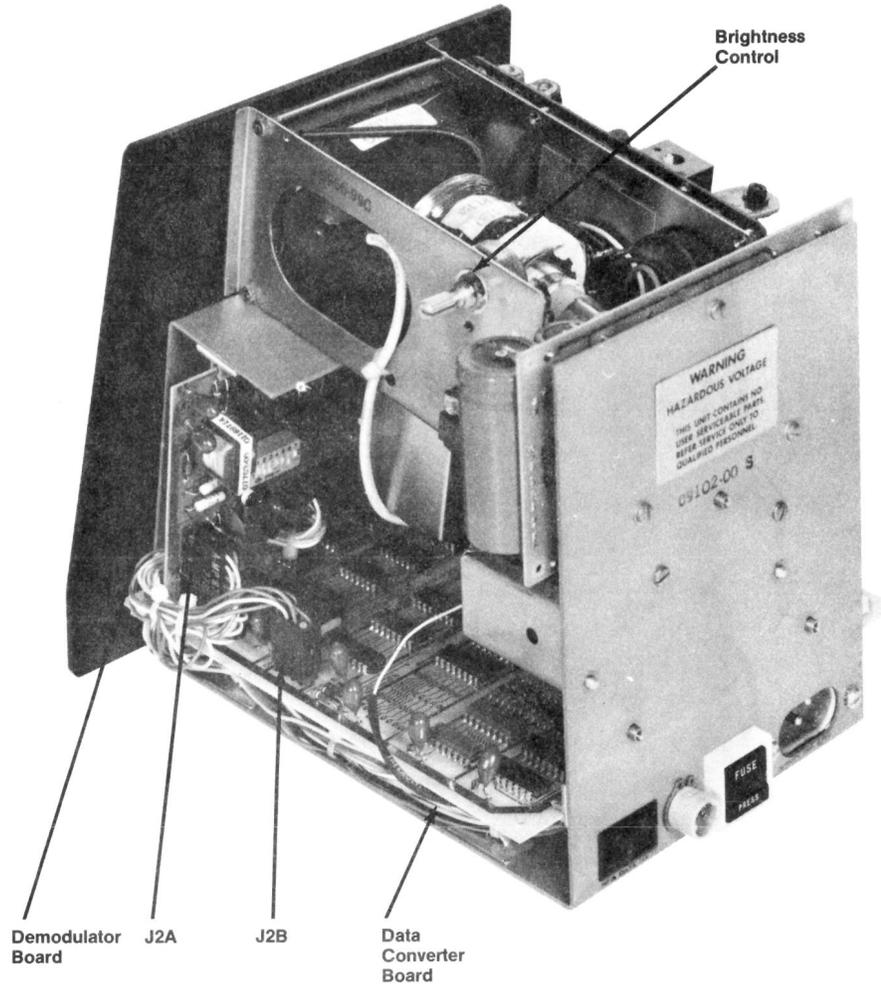

Figure 5, Right Side of Chassis
Video Brightness Control (Figure 5)
- n) If data is now correct, the original regulator board has malfunctioned. Replace regulator board. Adjust brightness and contrast control if necessary. (See Figures 5 and 6).